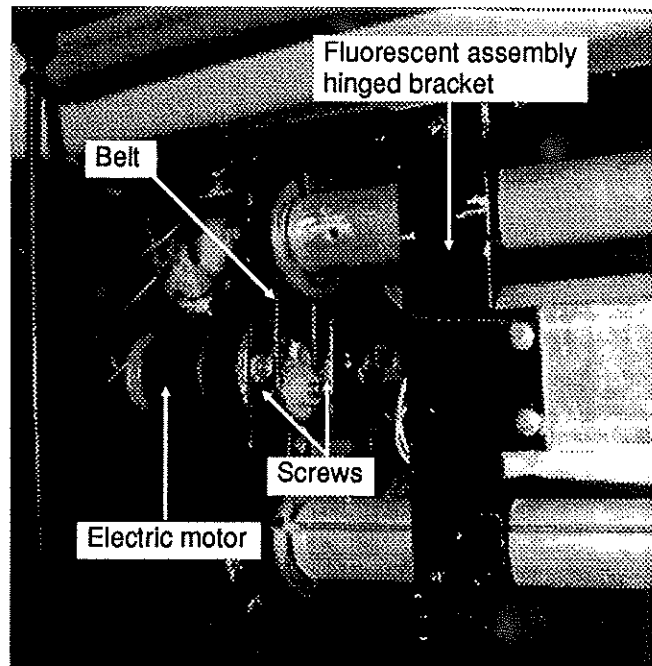

Fig. 11
2. Remove both Phillips-head screws, one on each fluorescent assembly hinged bracket (see fig. 11), then lower assembly.
2. Remove both screws retaining motor to destination sign frame (see fig. 11).